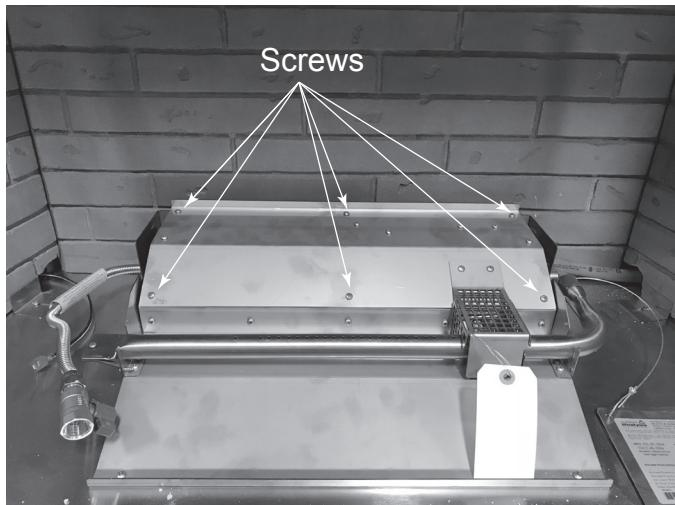

Figure 3.9 Remove Access Cover
- Remove (6) screws securing top access cover. See Figure 3.9.